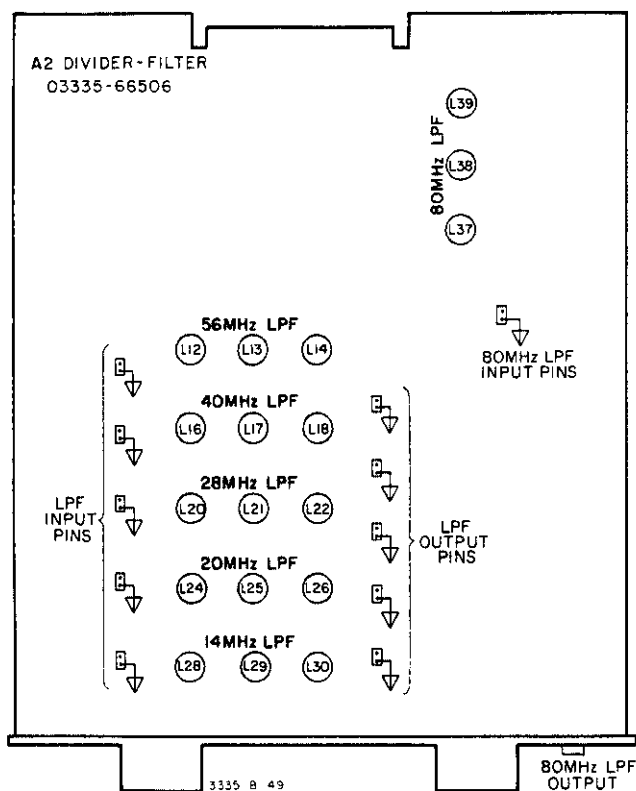

Figure 5-3. Filter Adjustment Location.
b. Connect the Spectrum Analyzer with a 50 ohm input impedance to the output connector of the filter to be adjusted. The location of each filter, adjustment location and filter input and output is shown in Figure 5-3. Adjust only those filters requiring alignment. The following Steps c through i apply to each filter listed in Table 5-5.